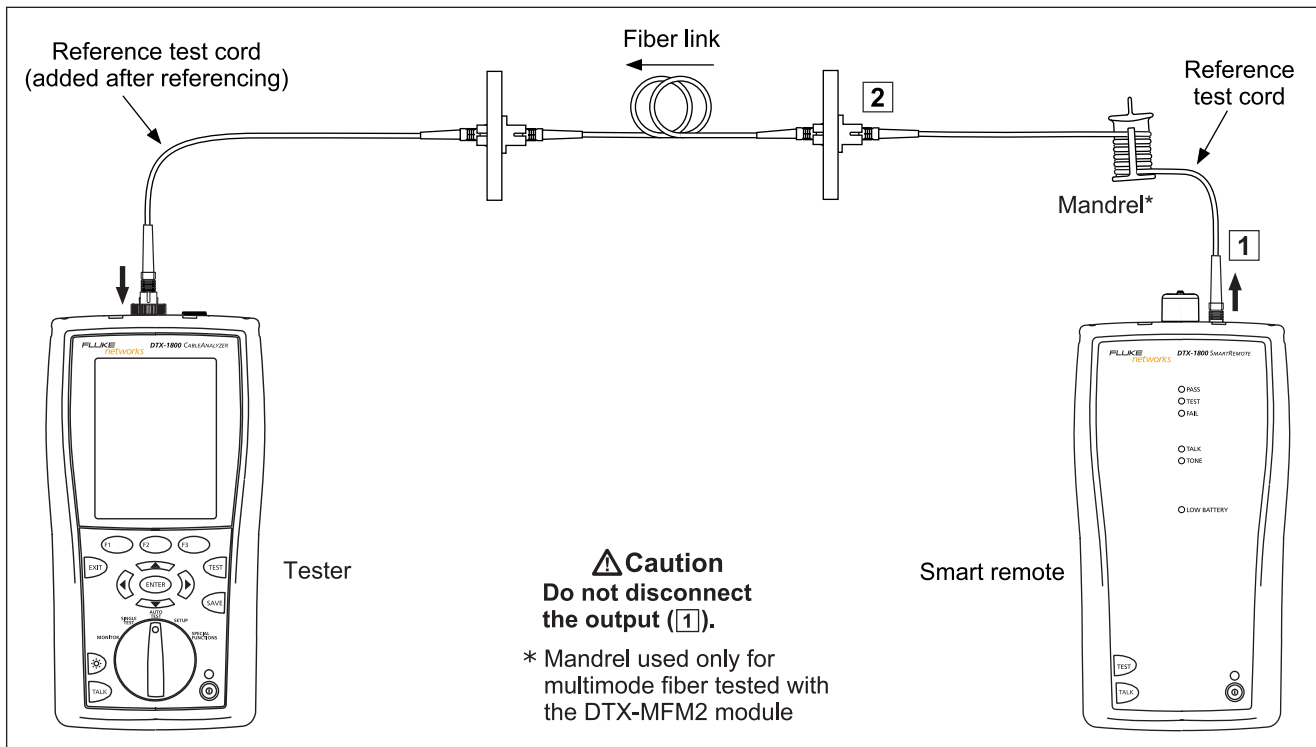

Figure 15. Far End Source Mode Test Connections (Method B)
- 6 Clean the connectors on the cabling to be tested; then connect the tester and source to the cabling. The tester shows connections for the test method you selected. Figure 15 shows connections for Method B.